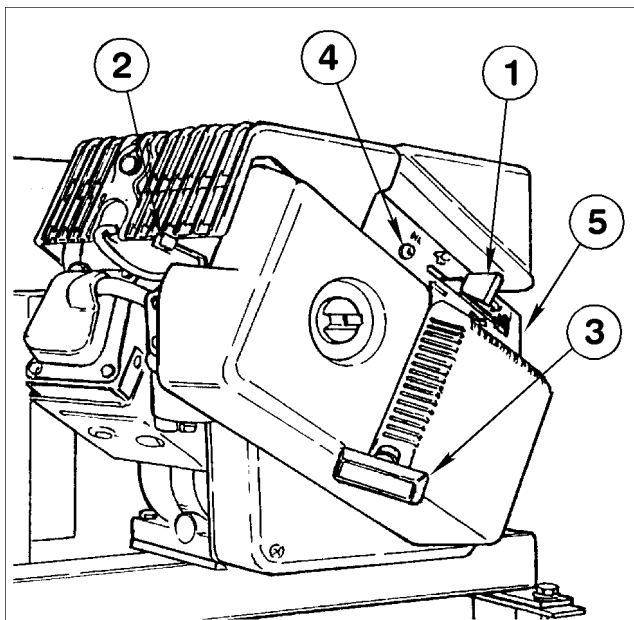

FIG. 6
2. **For a Cold Engine:** Place the throttle control midway between the "slow" and "fast" positions. Place the choke control into the "on" position. Gradually return the choke control to the "off" position after the engine starts and warms up. See FIG.6.
2. Close the fuel shut-off valve. See FIG. 6.